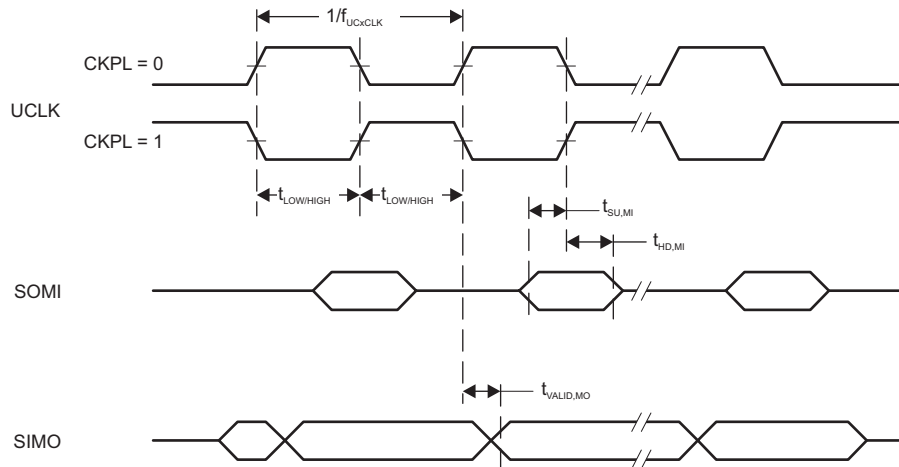
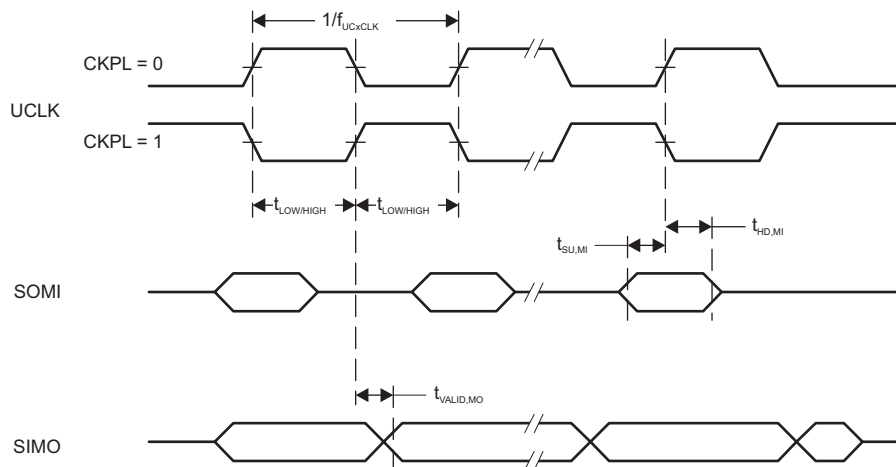

Figure 5-10. SPI Master Mode, CKPH = 0
Figure 5-11. SPI Master Mode, CKPH = 1
- (1) $f_{UCxCLK} = 1/2(t_{LO/HI})$ with $t_{LO/HI} = \max(t_{VALID,MO(eUSCI)} + t_{SU,SI(Slave)}, t_{SU,MI(eUSCI)} + t_{VALID,SO(Slave)})$. For the slave's parameters $t_{SU,SI(Slave)}$ and $t_{VALID,SO(Slave)}$ see the SPI parameters of the attached slave.
- (2) Specifies the time to drive the next valid data to the SIMO output after the output changing UCLK clock edge. Refer to the timing diagrams in Figure 5-10 and Figure 5-11.
- (3) Specifies how long data on the SIMO output is valid after the output changing UCLK clock edge. Negative values indicate that the data on the SIMO output can become invalid before the output changing clock edge observed on UCLK. Refer to the timing diagrams in Figure 5-10 and Figure 5-11.